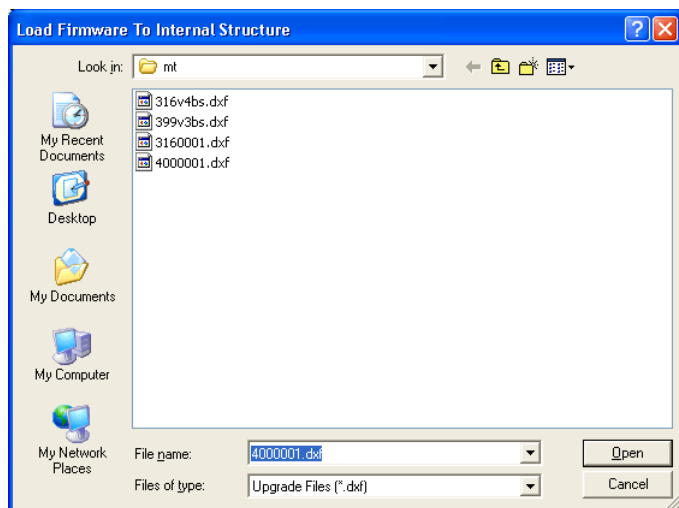

FIGURE 142 Load Firmware... dialog box
- 7 In the navigation dialog box that opens, locate the firmware upgrade file (**4000001.dxf**, for example), highlight it (one click) and click **Open** (Figure 142). DeLogger looks in the directory C:\Program Files\DeLogger\Firmware\mt by default. You can select files in other directories using this dialog box if necessary.